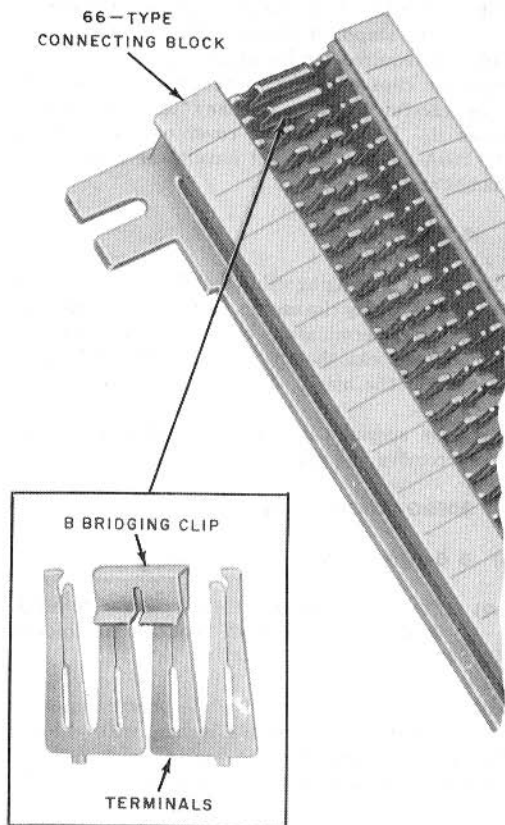

Fig. 17—B Bridging Clip, Installation Detail
**5.01** The B bridging clip (Fig. 17) is a stainless steel spring clip used to electrically interconnect two adjacent terminals in the same row of 66-type connecting blocks, thereby increasing the multiplying capacity of the block.